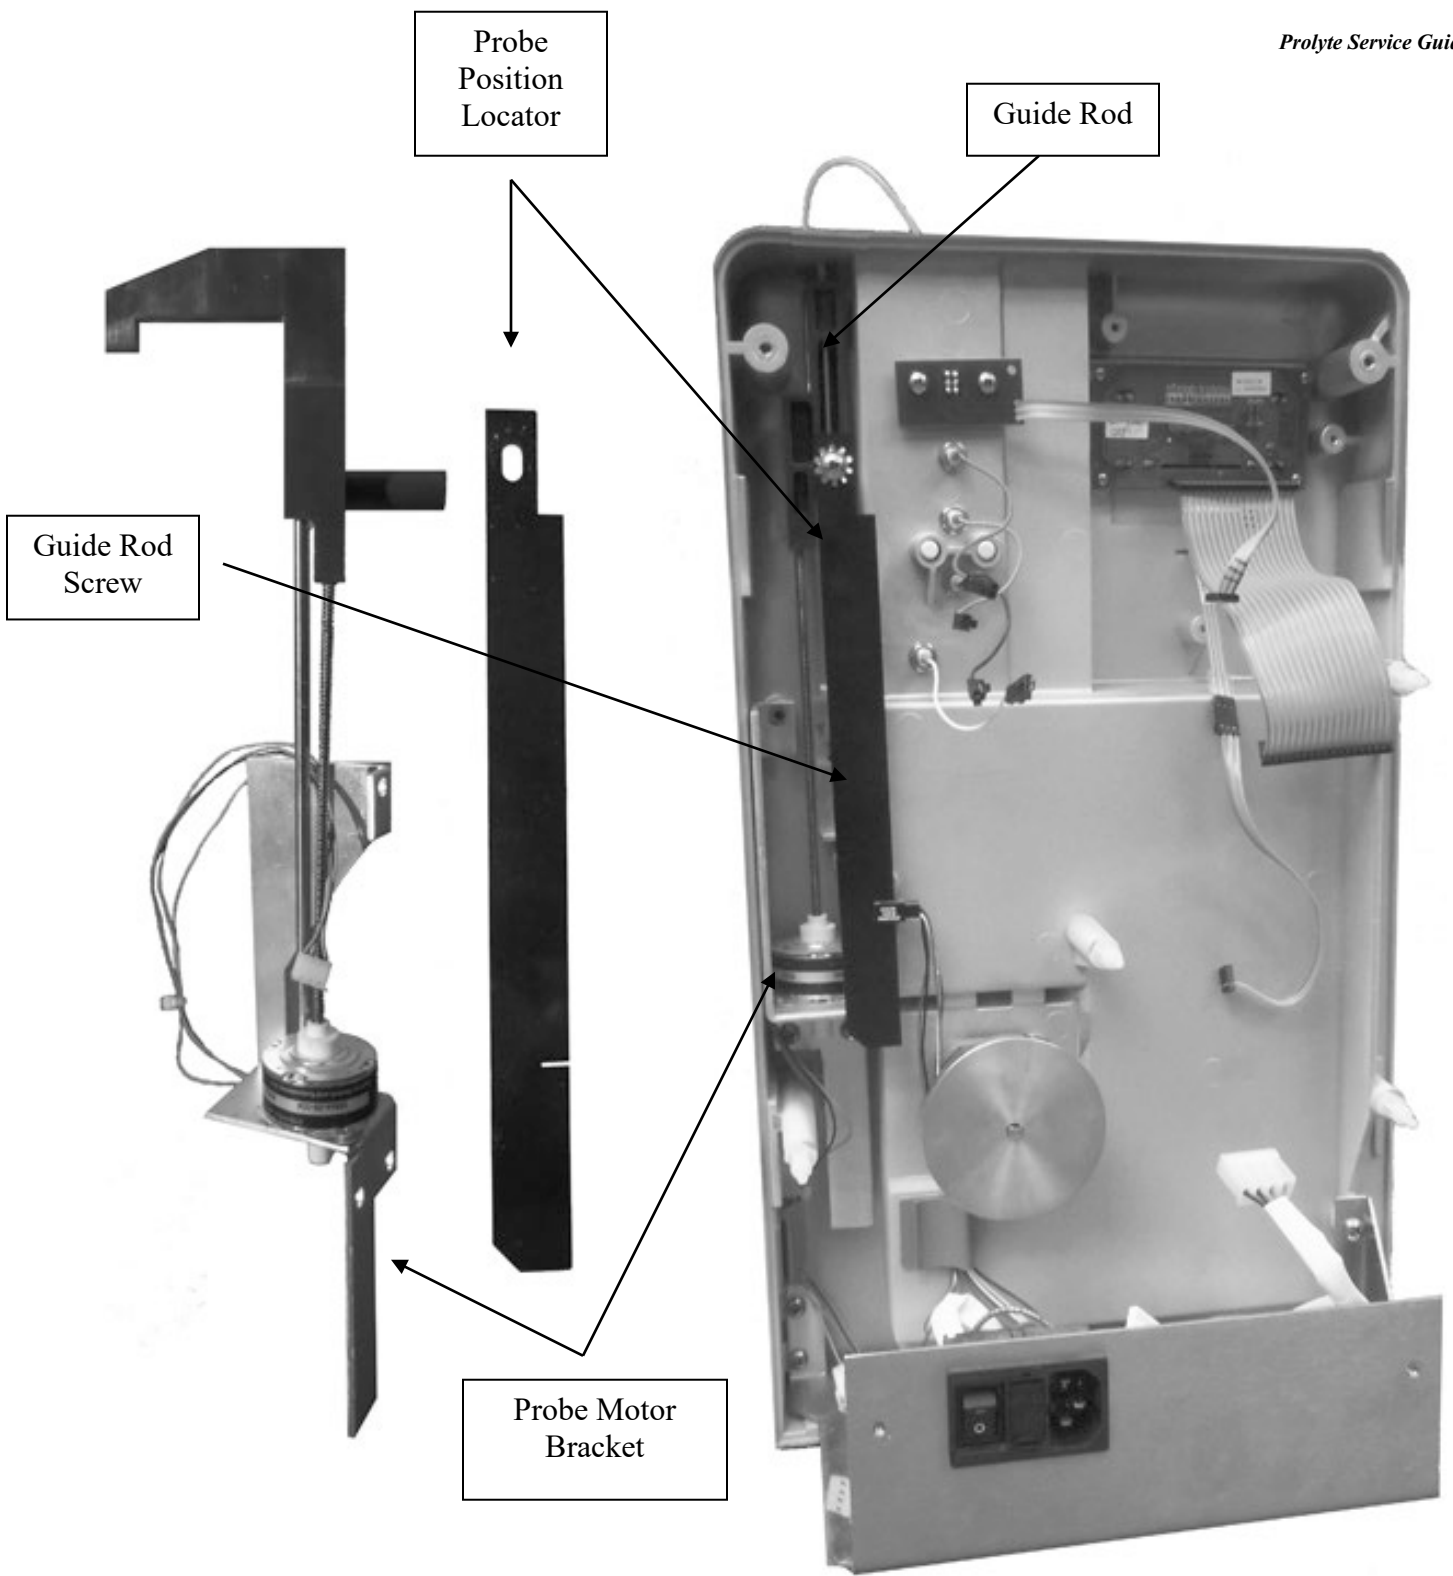

Figure P13 - Probe Motor Removal/Installation
5. Remove the three screws from the probe motor bracket, using a Phillips head screw driver, as shown in Figure P13.
1. Reinstall the probe motor assembly and the Guide Rod. Install Guide Rod screw with washer using a Phillips head screw driver. See Figure P13. Ensure the wires are routed behind the bracket.